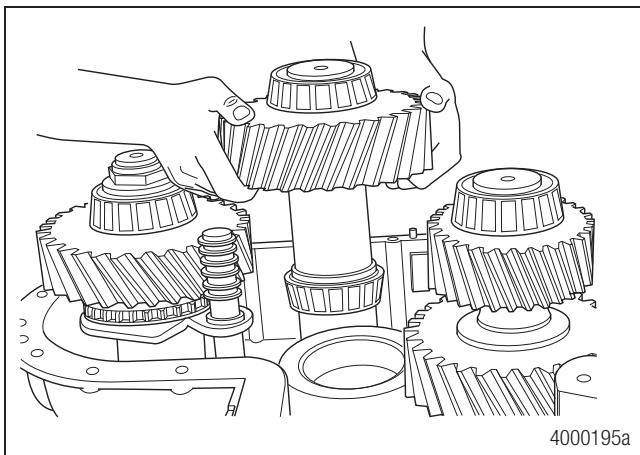

Figure 5.23
- Remove the single-gear idler shaft on MTC-4213X, or rear output on MTC-4208X/XP/XL/XLEV/XLEC and MTC-4210X/XP/XL/XLEV/XLEC, and the double-gear idler shaft from the case. Figure 5.23.